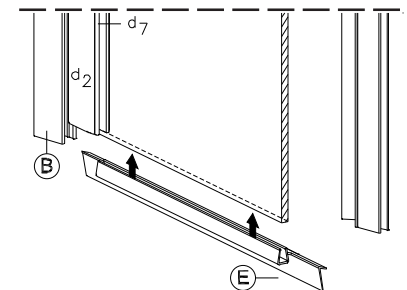
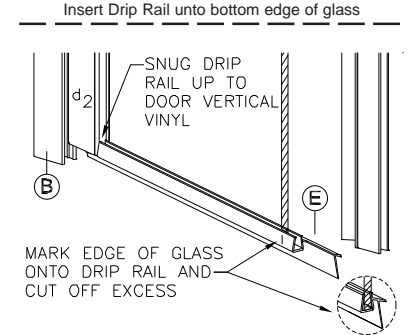

figure 5
figure 6
13. With drip wing positioned toward inside of shower enclosure, Insert Drip Rail (E) onto the bottom edge of the Door Assembly (D) as shown in exploded view - sheet 1 and figure 5. Now snug the Drip Rail up to the vertical Vinyl; mark the edge of the door glass on the rail and cut off the excess as shown in figure 6.